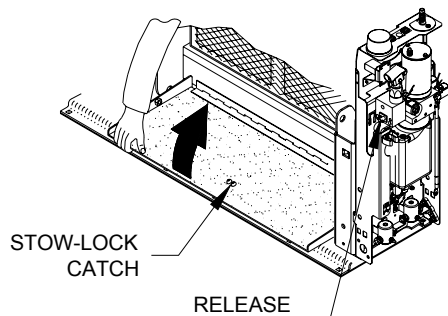

FIGURE 2-11: RAISE BRIDGEPLATE
- a. Refer to **Figure 2-11**. Override the Stow-Lock feature by lifting bridgeplate by hand. This will separate the Stow-Lock catch (fastened to underside of bridgeplate) from Stow-Lock latch (fastened to baseplate). If Stow-Lock is difficult to separate, use manual backup pump to raise platform slightly to remove tension from catch; refer to "Stowing Platform" paragraph in this section.